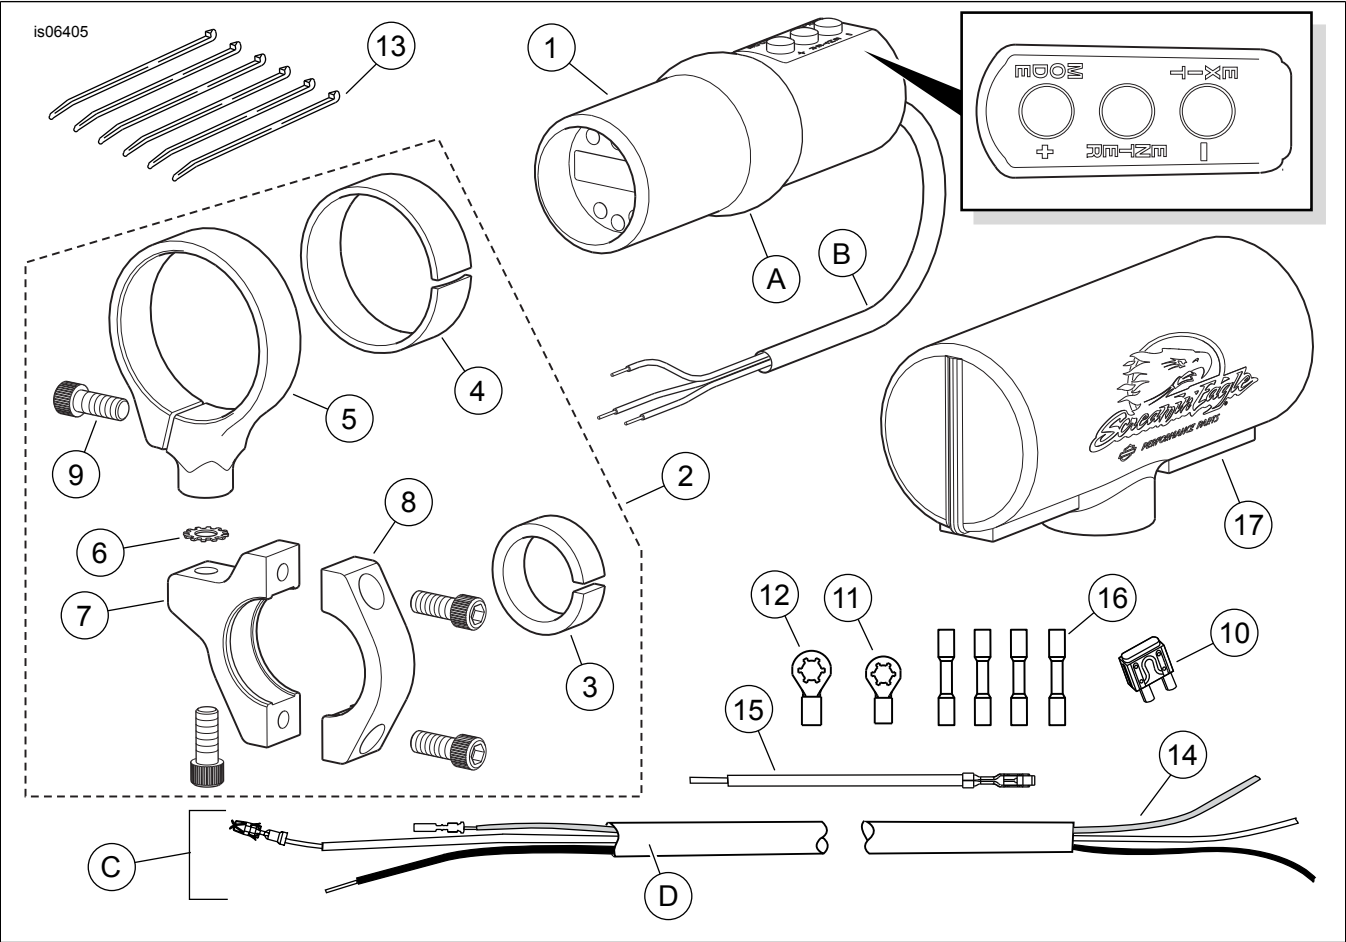

Figure 3. Service Parts, Screamin' Eagle Programmable Shift Light
- d. See Figure 3. Install the 2 Amp fuse (10) from the kit into the P&A IGN fuse cavity to complete the circuit.
- c. See Figure 3. Install the 2 Amp fuse (10) from the kit into the OPEN fuse cavity to complete the circuit.
- d. See Figure 3. Obtain the orange/white power adapter wire (15) from the kit. Insert the terminal on the adapter wire into the "P&A IGN" "2A MAX" cavity until it stops. Refer to a nearby factory-installed terminal for comparison to verify proper orientation and depth. Install the secondary lock.
- f. Use a sealed-splice connector (16) from the kit to splice the two orange/white wires.
- g. Install the 2 Amp fuse (10) from the kit into the P&A IGN fuse cavity to complete the circuit. Install the three fuses removed in Step 1b (above) into the proper cavities.
- b. Refer to the service manual appendix for proper wire splicing procedures. Use the remaining sealed splice connector (16) from the kit to splice the orange/white wire of the shift light power/signal wire harness to both orange wires.
- c. See Figure 3. Install the 2 Amp fuse (10) from the kit into the P&A IGN fuse cavity to complete the circuit.